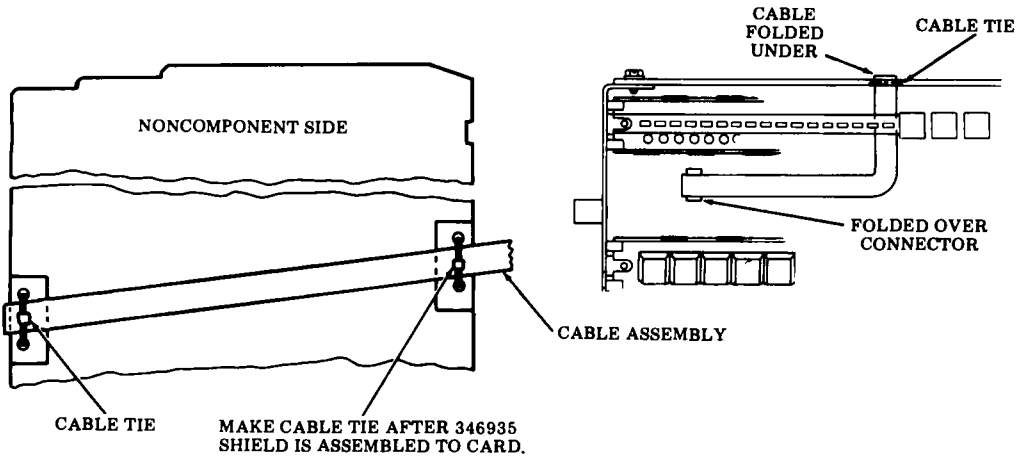

Fig. 16—Cable Replacement
- (i) In reassembly, insert new cable connector into circuit card holes and press into place. Route cable as shown in Fig. 16. Hold cable connector in place and resolder.
- (k) Fold cable under circuit card then fasten cable to card using locally furnished cable tie. Fasten in two places. See Fig. 16.